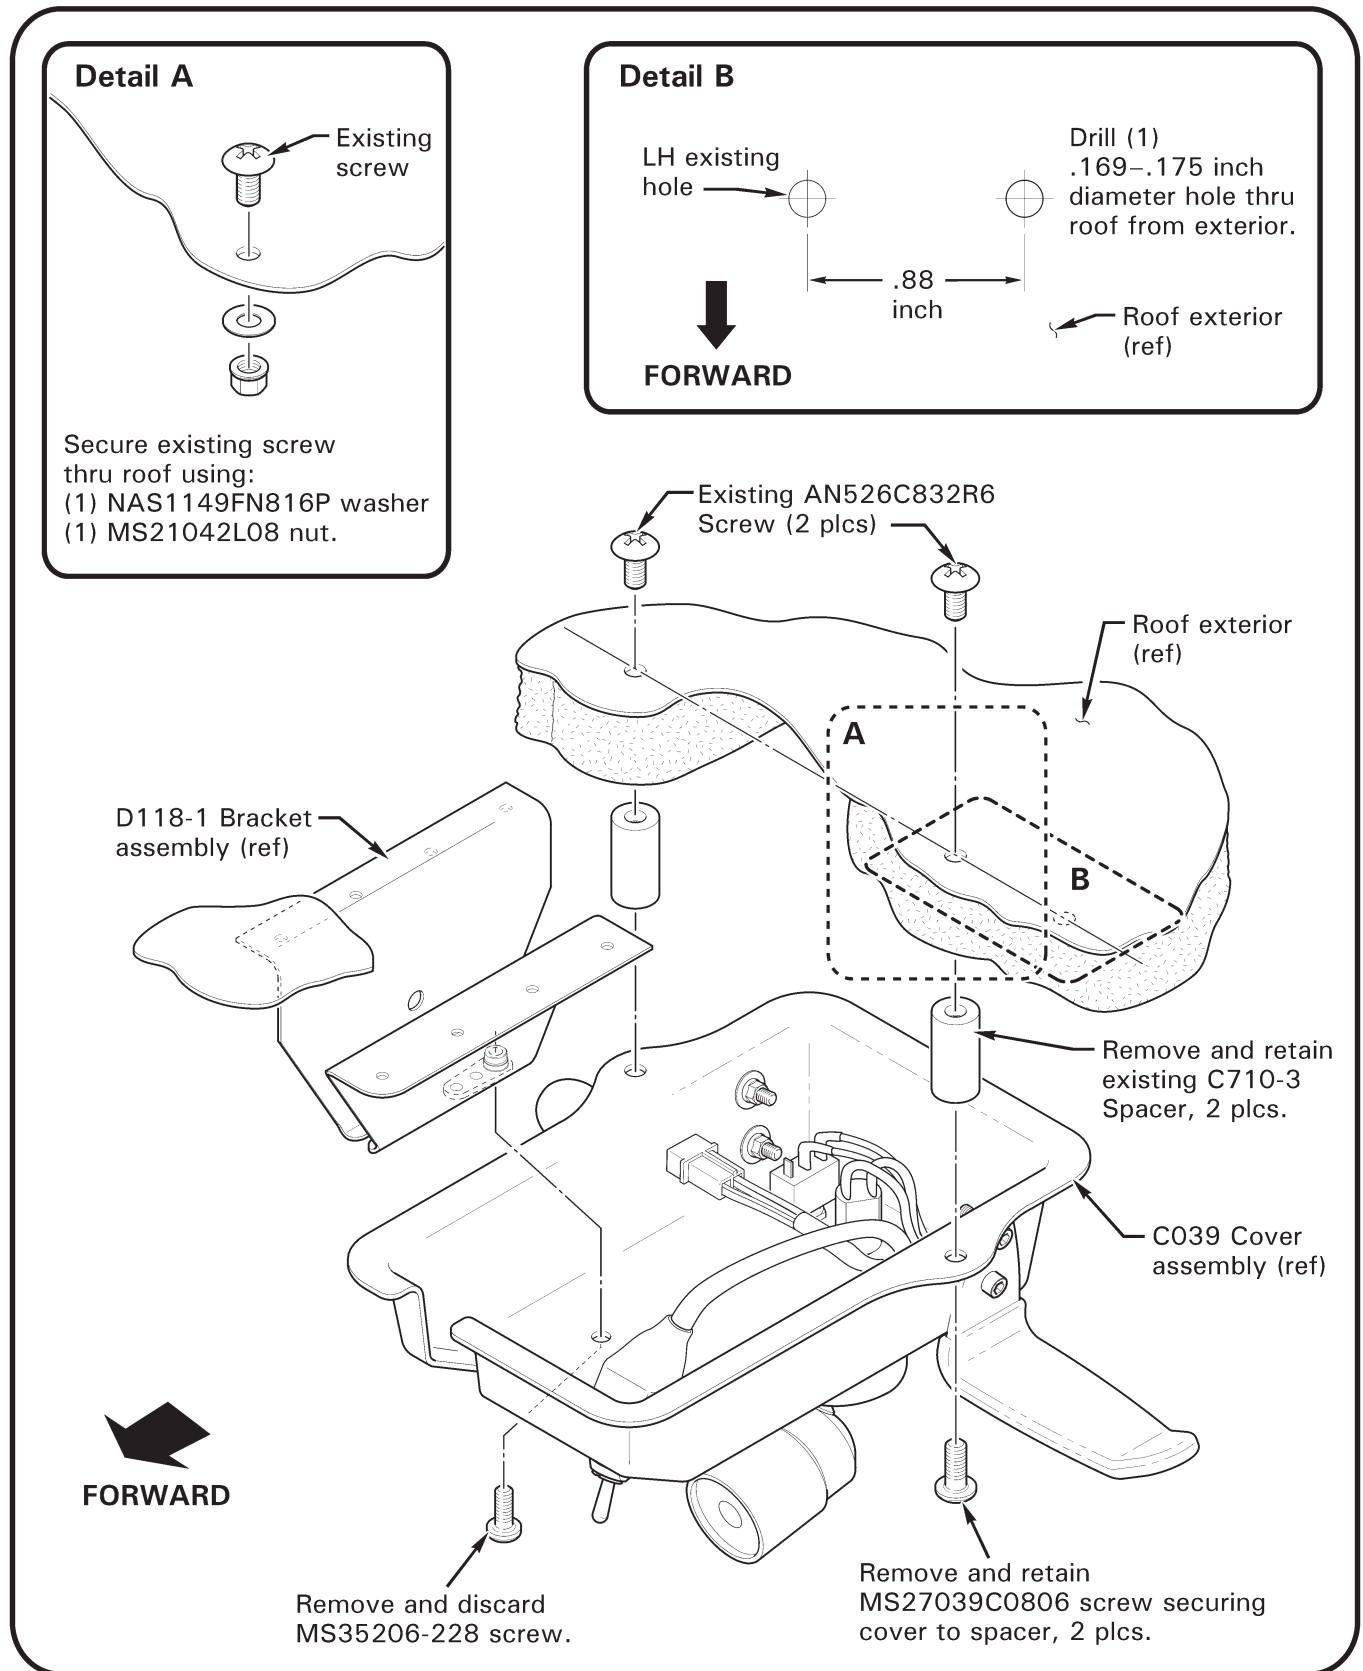

FIGURE 1 Existing C039 cover assembly installation
3. Refer to Figure 1. Remove and discard screw securing C039 cover assembly to D118-1 (rotor brake) bracket assembly; remove and retain screws securing cover to C710 spacers. Lower cover and disconnect cover wiring from airframe harness. Remove cover.
- 5 Refer to Figure 1. Layout dimension on exterior roof for drilling new hole as shown in Detail B, using straight edge to maintain lateral alignment with existing holes. Using a drill stop, drill (1) .169-.175 inch diameter hole. Deburr hole and clean up debris. Using a pick or similar tool, pierce headliner at newly drilled hole. Install new AN526C832R6 screw (provided).
6. Refer to Figure 1. Remove C710-3 spacer from center screw and secure screw to roof using (1) NAS1149FN816P washer and (1) MS21042L08 nut as shown in Detail A. Install spacer to newly installed AN526C832R6 screw.